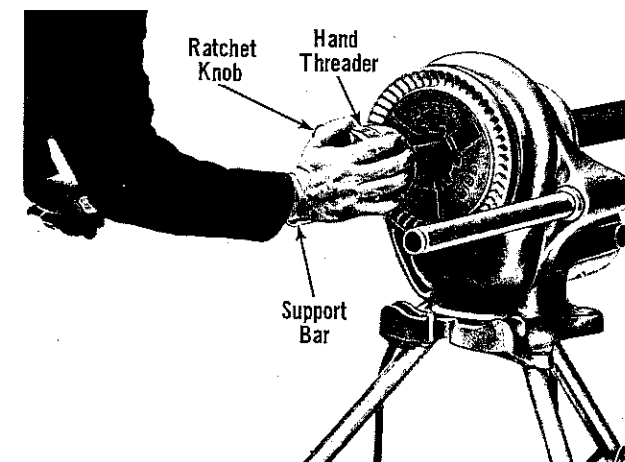

Figure 5. Pushing Hand Threader onto Pipe to Engage Dies.
- Place Threader on end of pipe with Handle resting on Support Bar (Fig. 5) located on switch side.
- Step on Foot Switch and push Threader (Fig. 5) with right hand to engage Dies.
- Reverse Threader Ratchet Knob (Fig. 5).